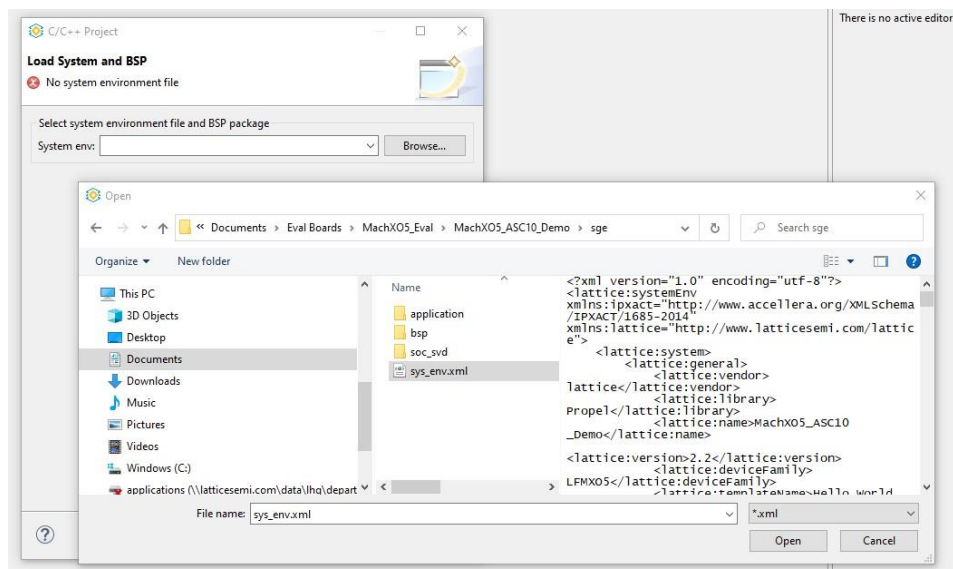

Figure 3.40. Propel SDK – New Project System and BSP
1. Browse the Propel Builder generated file **sys_env.xml** as shown in Figure 3.40.